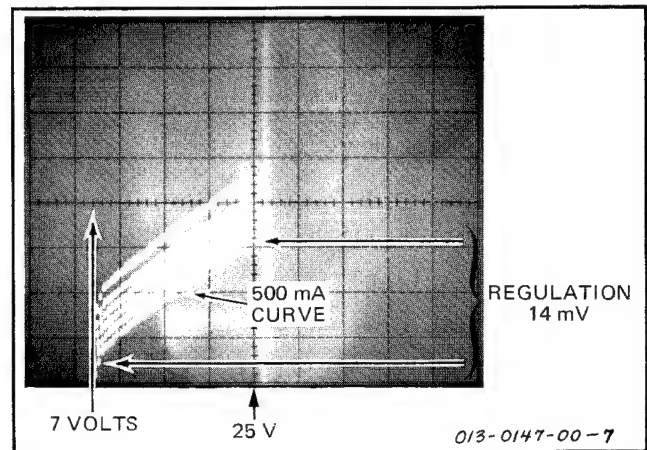

Fig. 2-10. Illustration of Example 2, part l.
l. Set the SWEEP AMPLITUDE to midrange. It may be necessary to change the VERT UNITS/DIV switch to keep the left end of the display on screen. See Fig. 2-10.